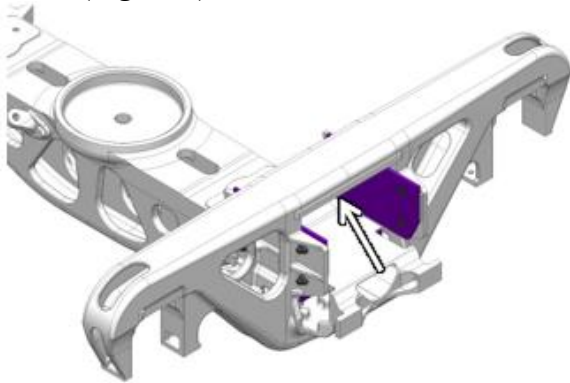

Figure 7: Locating Q4 Side Frame Opening
3. Locate the ends of the bolster through the side frames openings (Figure 7).